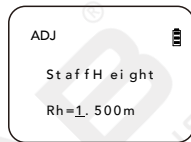

fig. 31
- Input the data you get from “(2)”, press the SET button to select the digital underline place, press MEAS. button to input 0-9 as 1.3190m (fig. 31), Input numbers one by one. When “Enter” shows up in the screen, (fig.32), press the SET button, it will mentioned for you to aim at the staff.